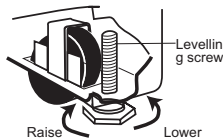

Figure 1.
- Set the temperature control to 3 (normal). Temperature control adjustments range from 1 (warmest) to 5 (coldest) (figure 1).
- Level the refrigerator. Remove wood supports and adjust the roller levels (FIGURE 1).
- Verify if the condenser has lint or is dirty (FIGURE 1)
- Verify the light intensity. If it is low, consult with a qualified technician (FIGURE 1).